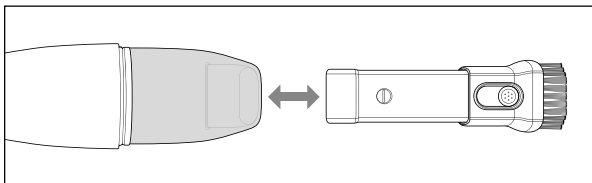

Fig. 2
- ◆ Insert the 2-in-1 suction nozzle 12 into the suction opening 2 of the appliance. Make sure that the button for adjusting the brush nozzle is facing upwards (see Fig. 2).
- ◆ To remove the 2-in-1 suction nozzle 12, pull it out of the suction opening 2 (see Fig. 2).